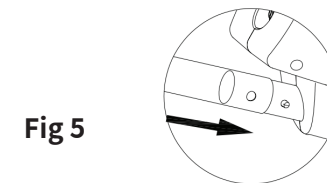

Fig 5
4. Attach the aluminum pole (9) by squeezing the spring buttons and inserting into handle of the vacuum body (1). Check the buttons “pop” into the holes. Adjust the length of the shaft by unlocking, extending and locking each section accordingly. See fig 5.